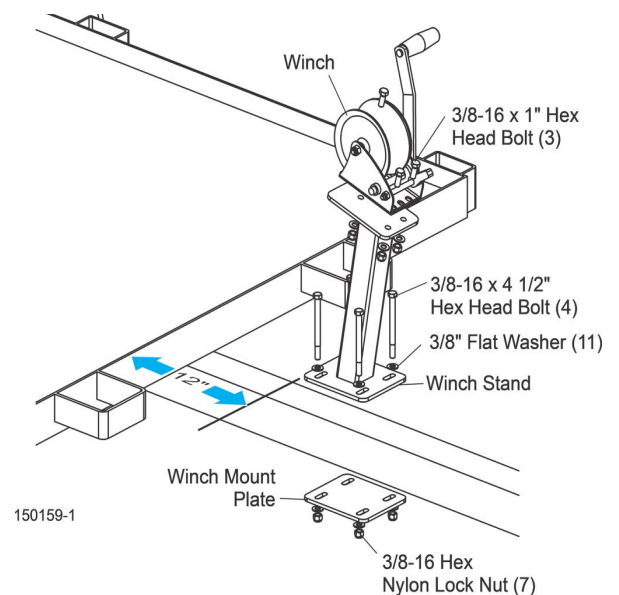

FIG. 1-1
5. Secure the winch stand to the post with the winch mount plate and four 3/8-16 x 4 1/2" hex head bolts, flat washers and lock nuts See Fig. 1-1.